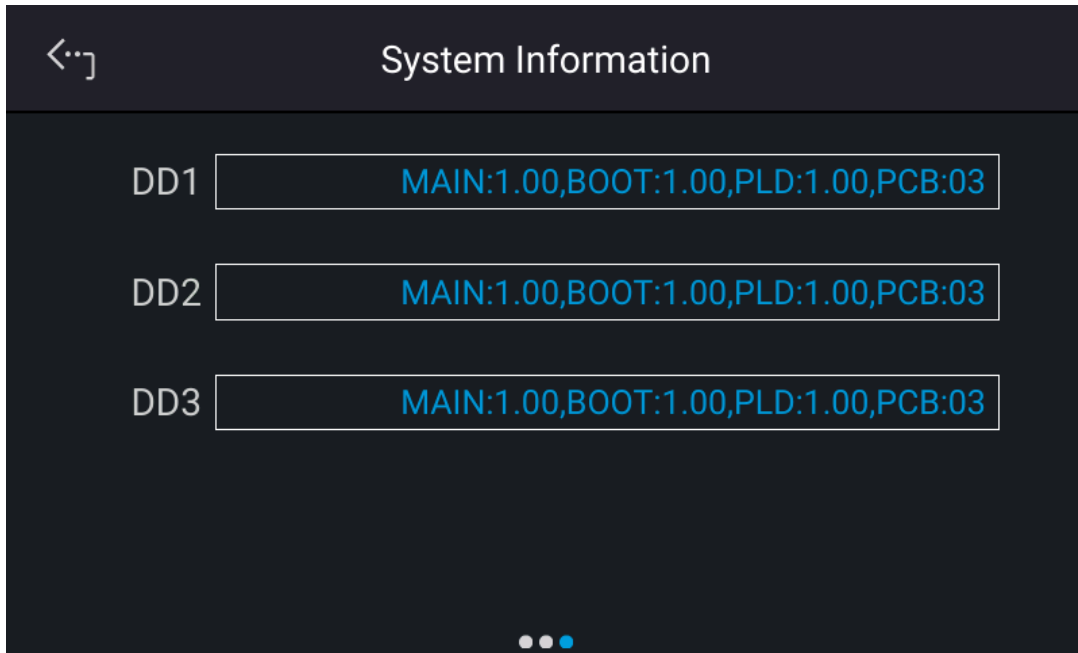

Figure 3-15
- DD1~DD3 : Displays the firmware, CPLD, and PCB version no. of rear stage module as shown in Figure 3-15.